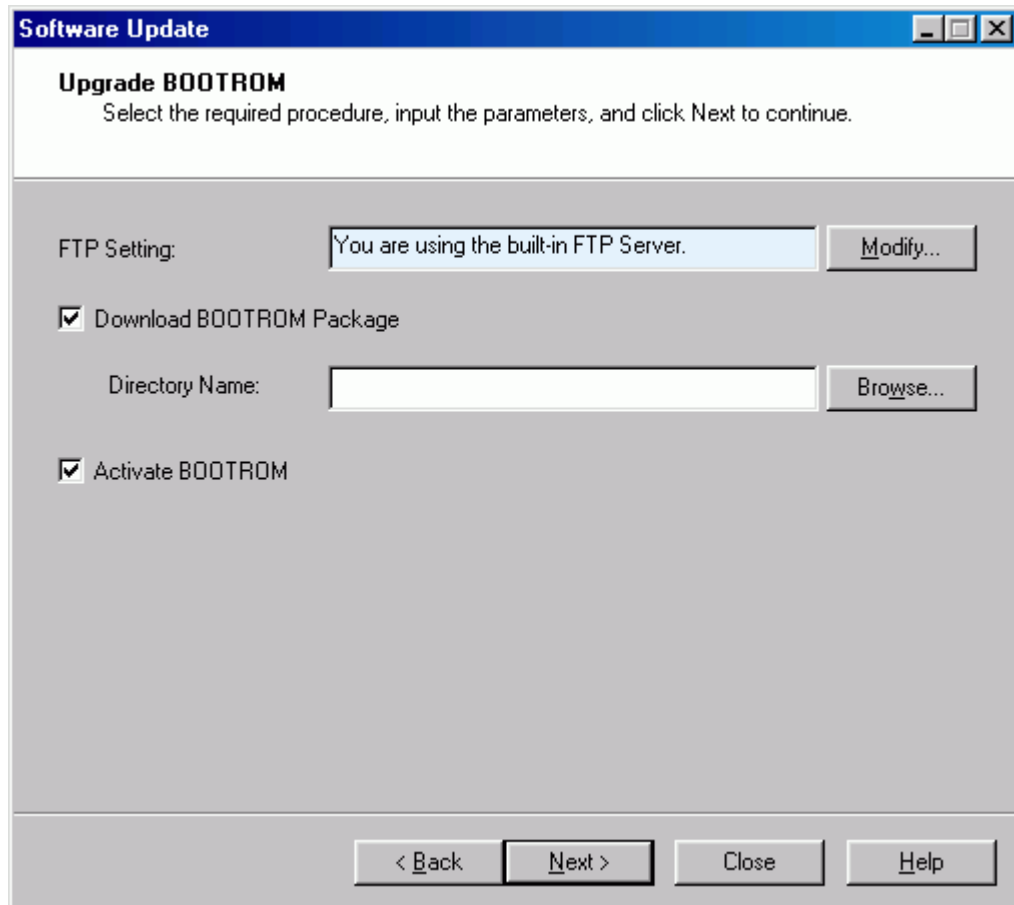

Figure 14-6 Upgrade BOOTROM dialog box
- 3) Click **Next**. The **Upgrade BOOTROM** dialog box opens up as shown in Figure 14-6.